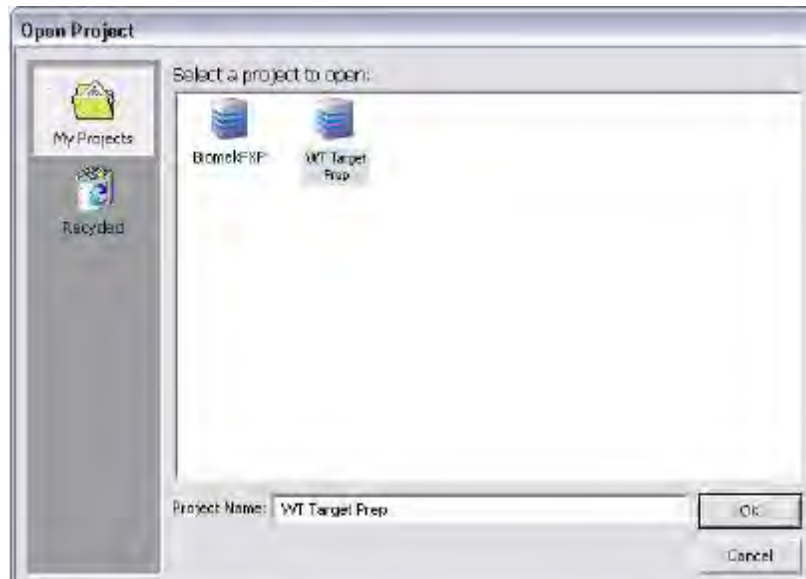

Figure 13 Select the WT Target Prep project.
- b. In the dialog box that appears (Figure 13), select **WT Target Prep**, then click **OK**.